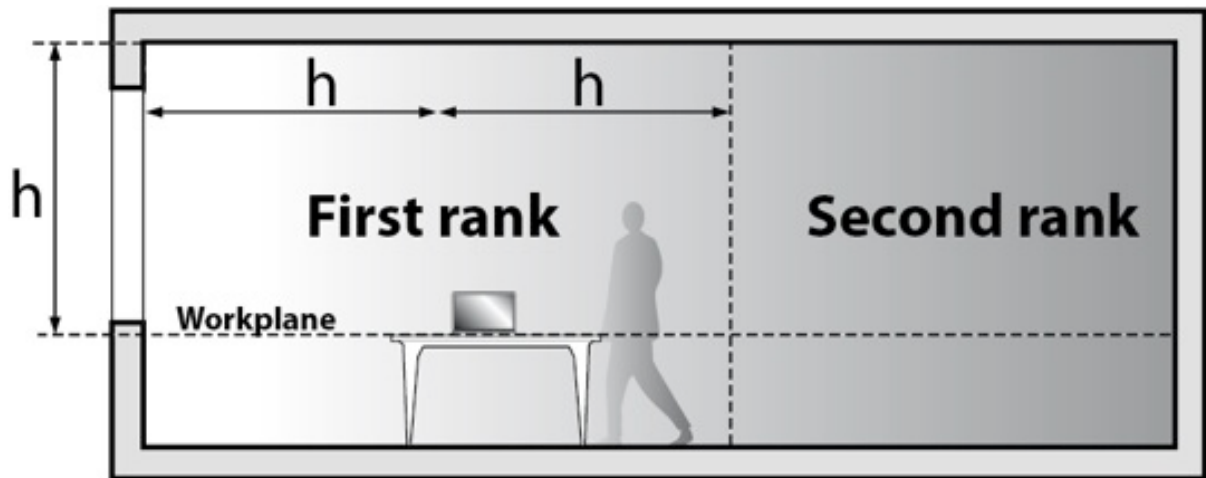

Figure 130: First and second rank area according to the Certives ® standard definition.
1. Click on this button to calculate the daylight factor values within the “first rank” area (see schematic definition in Figure 130).